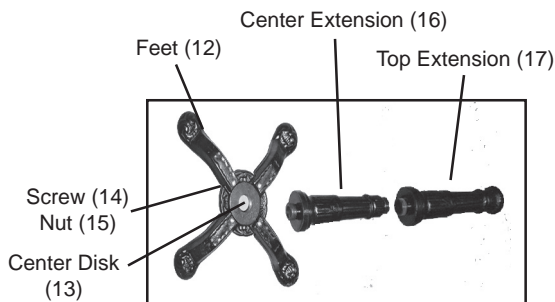

Figure 6
1. Attach the four Feet (12) to Center Disk (13) with four Screws (14) and Nuts (15). **See Figure 6.**